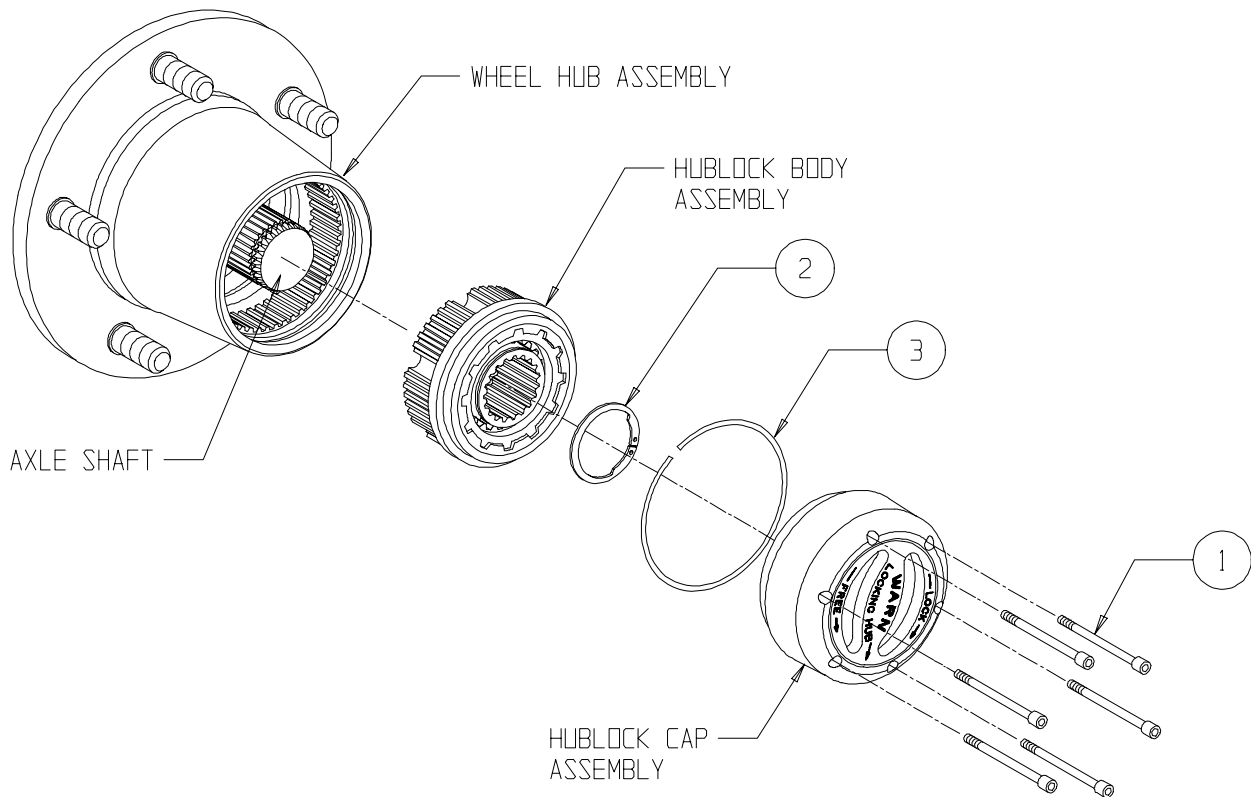

Figure 1. Hublock Removal
3. Remove the 6 socket head cap screws from the hublock cap assembly. Remove cap assembly. (Figure 1, Flag 1)
4. Remove retaining ring from the end of axle shaft. (Figure 1, Flag 2)
5. Remove the lock ring from groove in wheel hub using a small flathead screwdriver. (Figure 1, Flag 3)